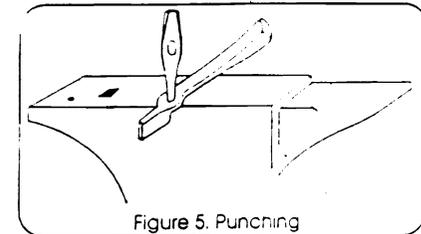

Figure 5. Punching
9. Punch the boss for the rivet by fore-punching on the outside of the tong at the edge of the anvil with a round punch. See Figure 5. Follow by back punching over the pritchell and drifting to the final size in this position. It is not advisable to drill these holes as all strength possible is needed at this joint.